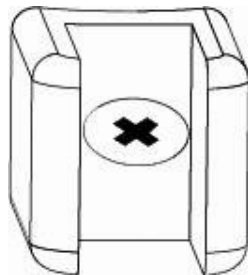

Figure 10: Glass Clamp Inset Screw – Loosen and Turn 180 Degrees
9. Make sure the Allen Key holes on the outside of each Glass Clamp are all facing inwards towards the seating area. If any of the Glass Clamp Allen Key holes are facing outward, use a #2 Phillips screwdriver to loosen the screw inside the Glass Clamp (see **Figure 10**) and rotate the Glass Clamp 180 degrees. Re-tighten when completed.